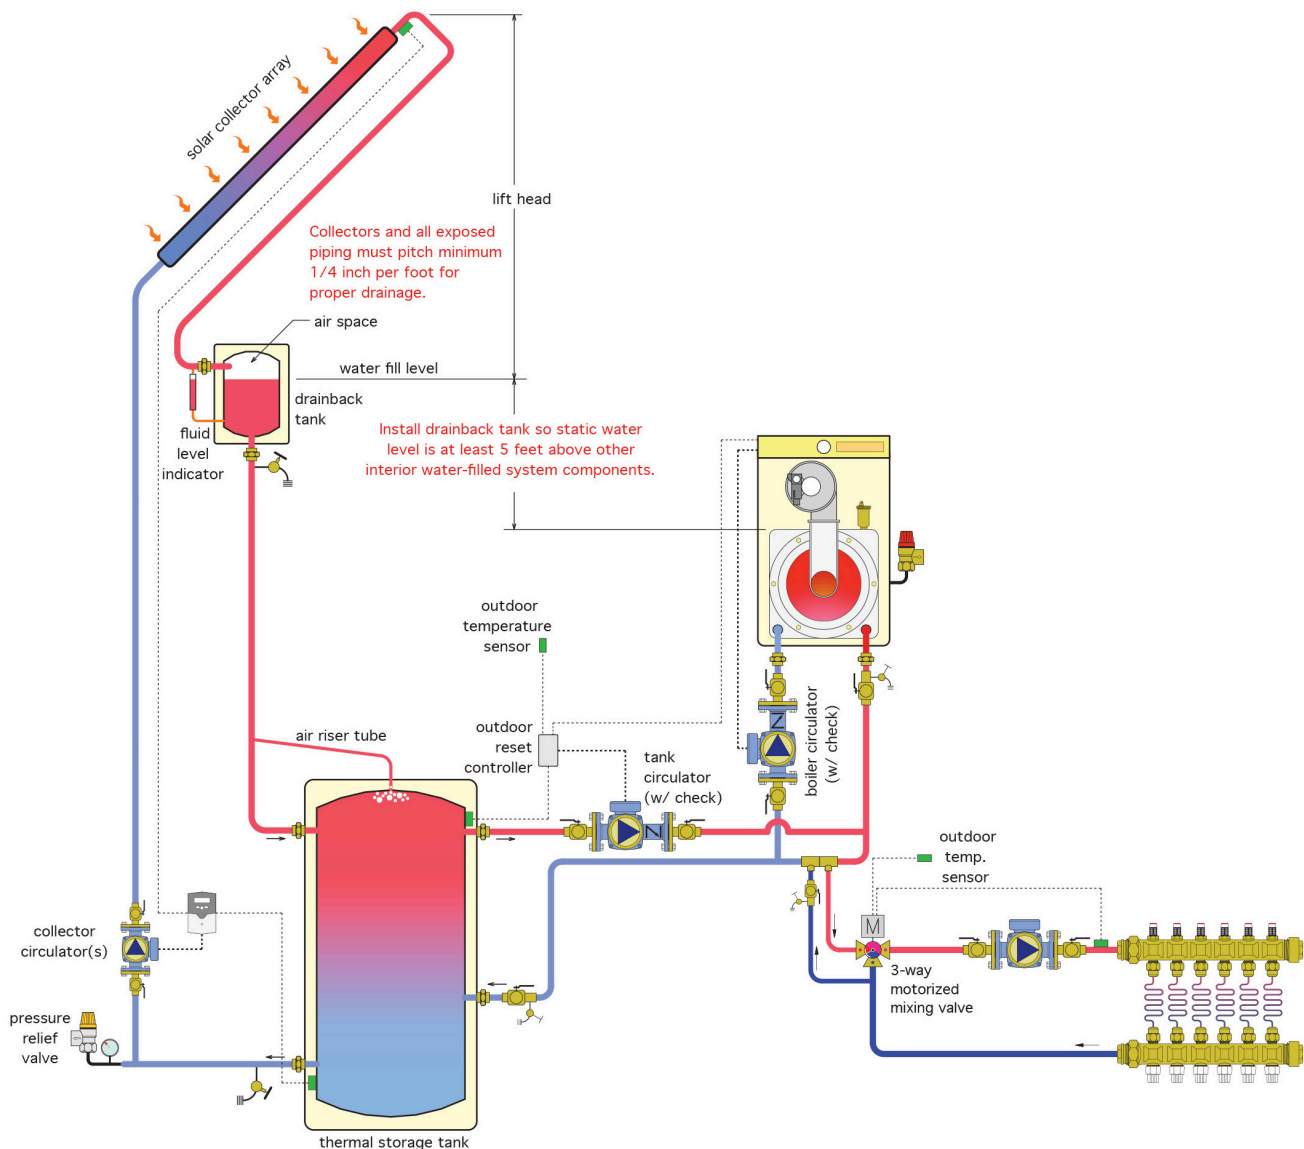

Figure 2 Drainback system with radiant floor heat and modulating condensing boiler
- Figure 2 Closed-loop antifreeze system using storage tank as heat exchanger © Caleffi
Figure 2 below shows a similar system using a drainback feature and a modulating condensing boiler.